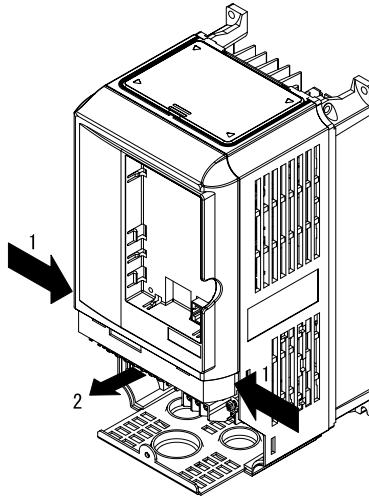

Fig 1.14 Removing the Front Cover (Model CIMR-F7A45P5 Shown Above)
2. Press the left and right sides of the front cover in the directions of arrows 1 and lift the bottom of the cover in the direction of arrow 2 to remove as shown in *Fig. 1.14*.